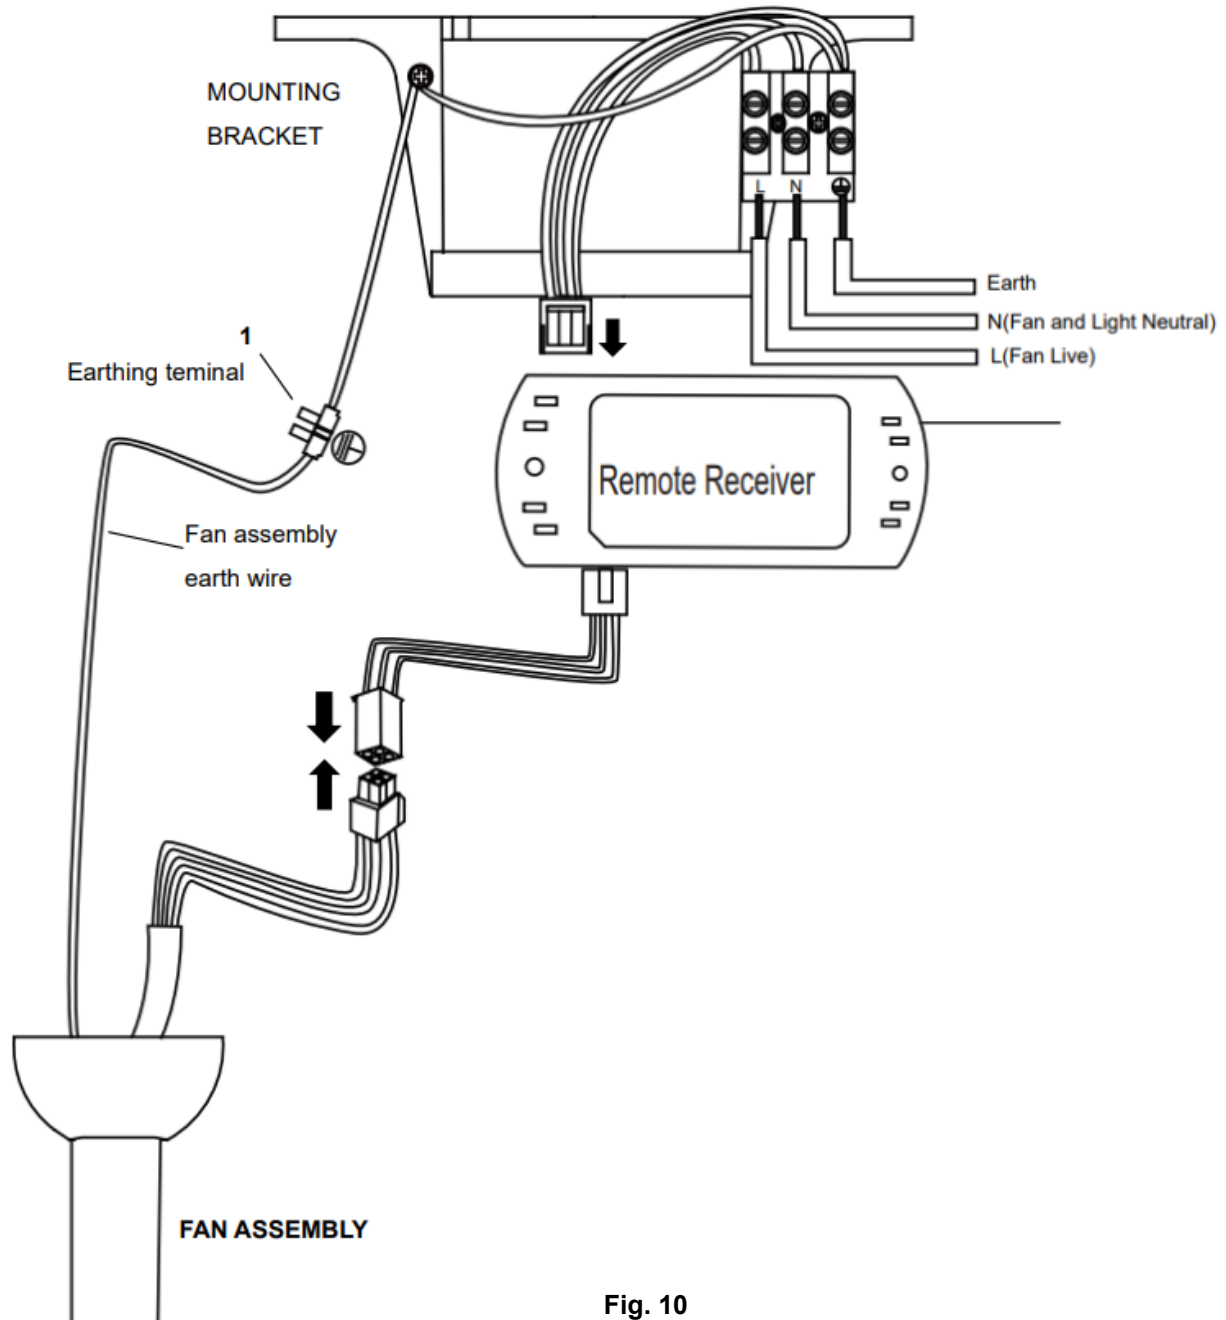

Fig. 10
**NOTE:** Ensure the motor earth wire is connected to the single earthing terminal block “1” in the diagram below (Fig. 10).
**From mains supply to mounting bracket terminal block:** (Fig. 10)
**From mounting bracket to receiver and motor:** (Fig. 10)